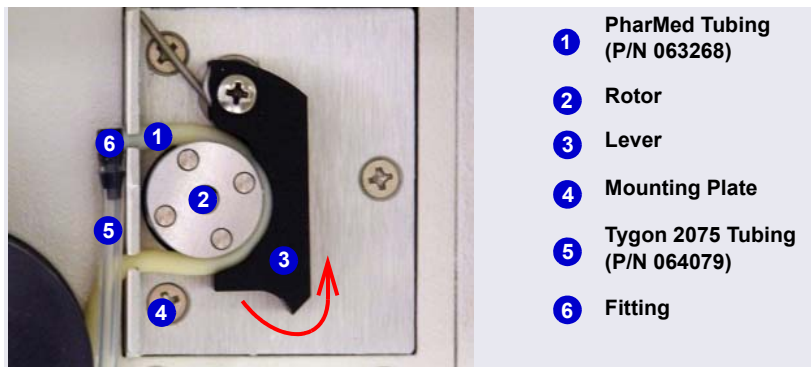

Figure 9-9. Peristaltic Pump for Seal Wash System
4. Remove the old tubing from the peristaltic pump (see Figure 9-9) as follows: